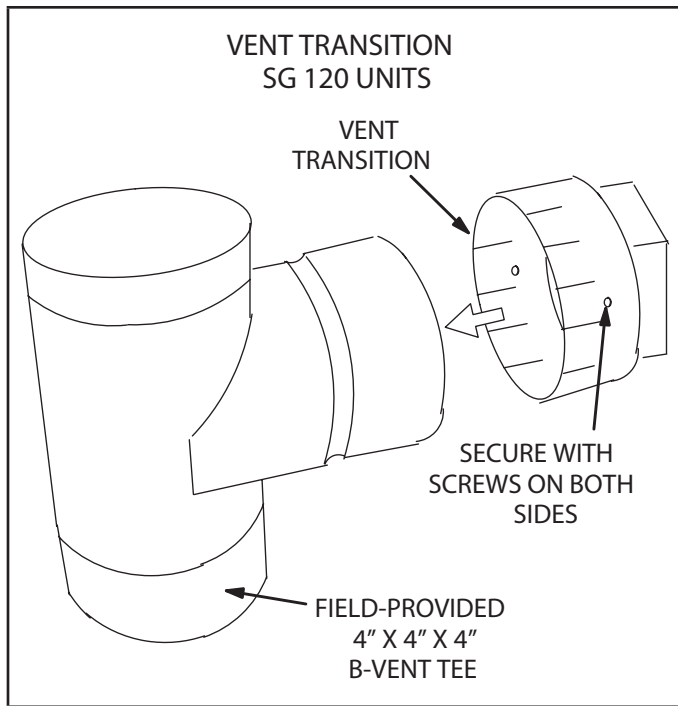
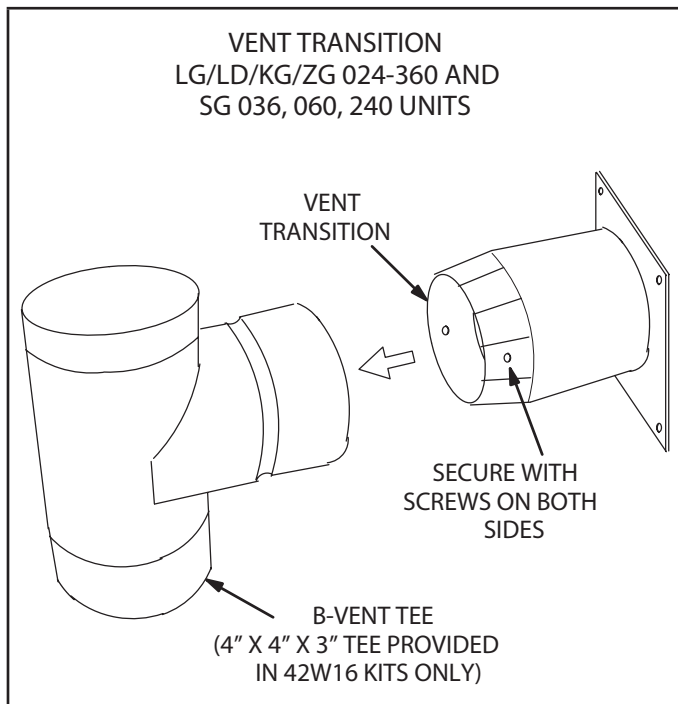

FIGURE 1
FIGURE 2
- 3 - Install vent transition in field-provided B vent tee as shown in figure 1 for SG 120 units. See figure 2 for all other units.